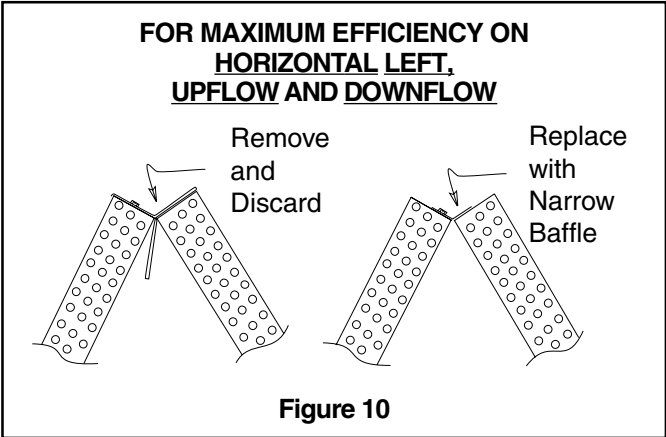

Figure 10
- b. Remove the factory installed baffle assembly from the apex of the coil by using a 5/16" nutdriver to remove the screw. Replace this baffle with the factory supplied narrow coil baffle using the screws removed previously. See Figure 10. Reinstall coil assembly.
- c. Remove the factory installed baffle assembly from the apex of the coil by using a 5/16" nutdriver to remove the hex head screw. There is a coil support tab at the top of the coil connected to the case must be removed first. Replace this baffle with the factory supplied narrow coil baffle using the screws removed previously. See Figure 10.